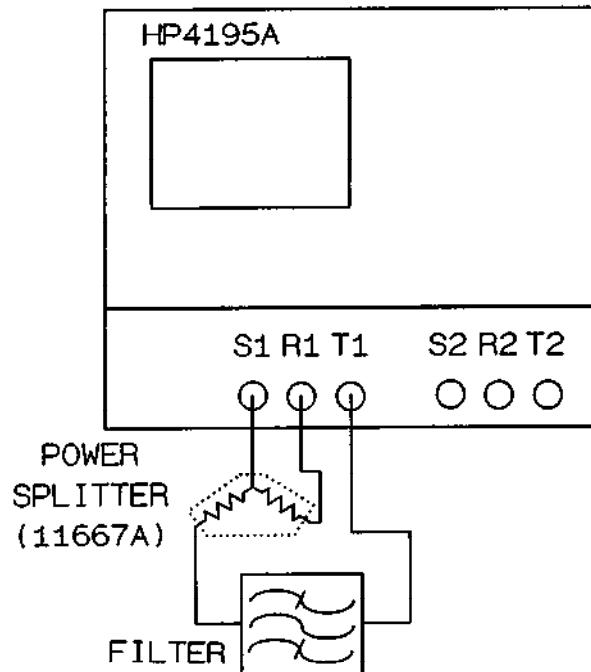
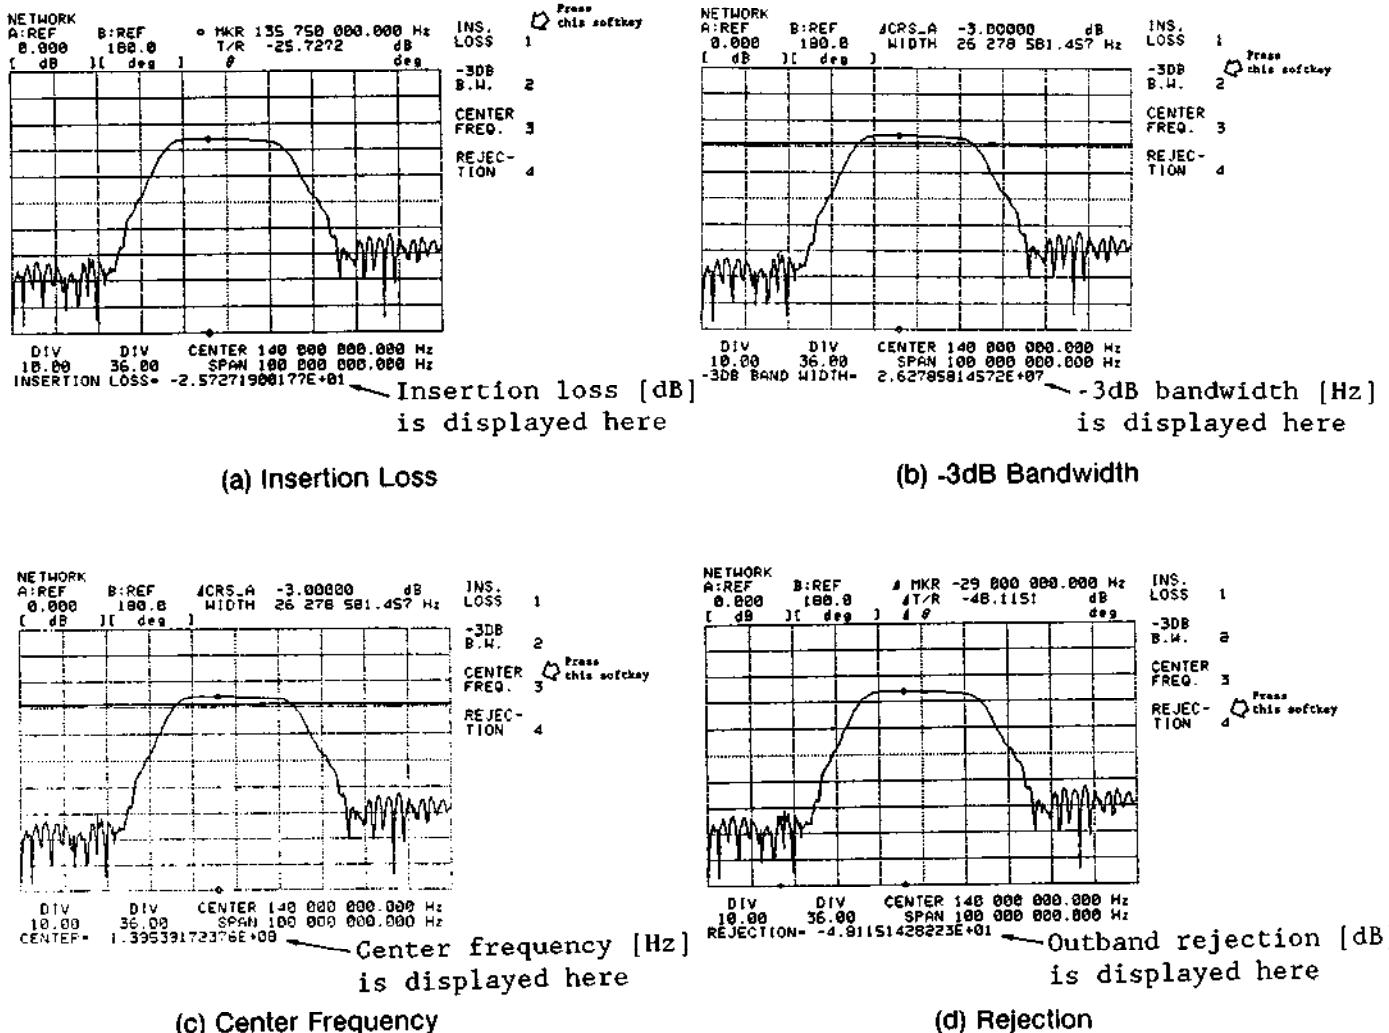

Figure 1. Filter Testing Configuration
Figure 2. Filter Parameters
Figure 1 shows the filter test configuration used. A power splitter is required for this measurement. The **USER DEFINE** keys are defined using a **USER PROGRAM**. The program listing for Program 1 is given in the Appendix of this application note. After executing this program, press the '**USER DEFINE**' key. Softkeys defined by a **USER PROGRAM** will be displayed as shown in Figure 2. When the '**USER DEFINED**' key is pressed, each parameter is displayed at the bottom of the screen as shown in Figure 3. When using this technique, a filter's parameters are easily obtained with just a single key stroke, no time consuming, error prone key stroke sequences or function/measurement sequences need be performed.
- 2) Connect the DUT as shown in Figure 1.
After executing Program 3 to set the limit lines, the HP 4195A is ready to perform GO/NO-GO filter testing. Connect a DUT as shown in Figure 1 and execute Program 4. The GO/NO-GO test procedure is as follows: